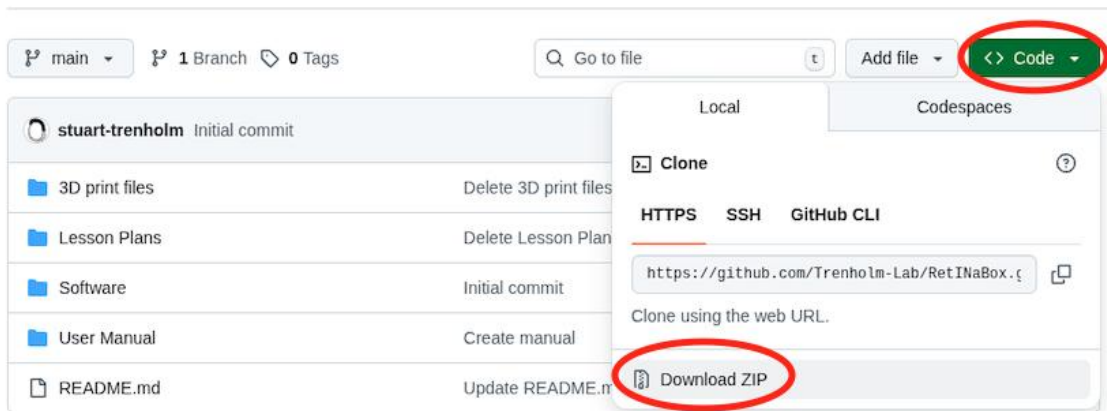

Figure 29. Downloading RetINaBox software from GitHub.
- b. Download the repository ZIP by clicking on the green 'Code' button, then the 'Download ZIP' button (**Fig. 29**). Once downloaded, the ZIP file will appear in your downloads folder as RetINaBox-main.zip.